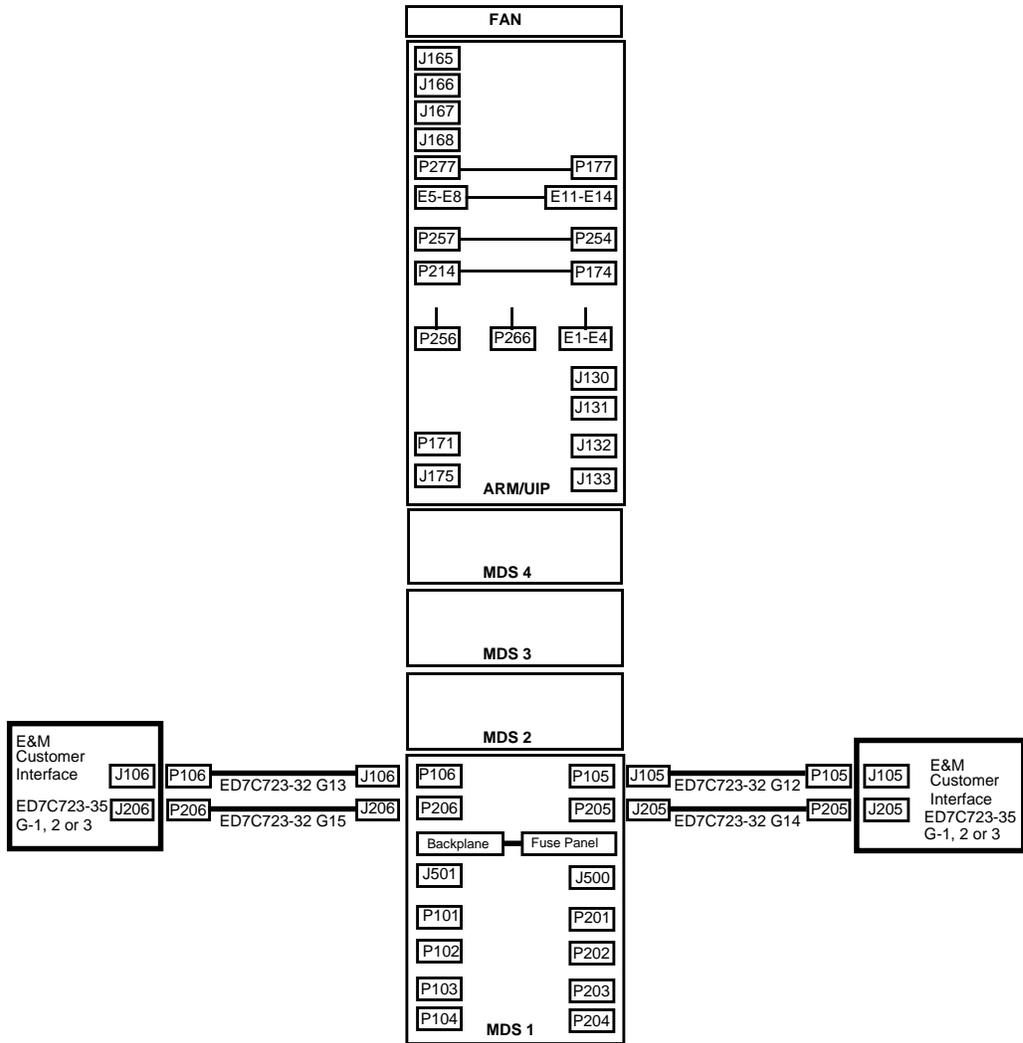

Figure 3-40. E&M Interface Cables
This procedure consists of installing the E&M Customer Interface Cable Assemblies (ED7C723-35 Group 1, 2, or 3) and mating their connectors to the MDS Shelf Dangler Cable Assemblies (ED7C723-32 Groups 12 to 15, Figures 3-40 and 3-41) which have been furnished as part of the MDS assembly.
- Step 1:* Install the VF Interface Cable Assemblies in the appropriate duct and mate their connectors with the connectors of the MDS Cable Assemblies in accordance with Figures 3-40 and 3-41 and the table below.